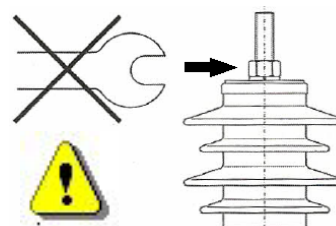

Figure 11: Prohibited action
- Fix with a torque of 25Nm, do not apply any force on lower nut of the surge arrester (Figure 11)